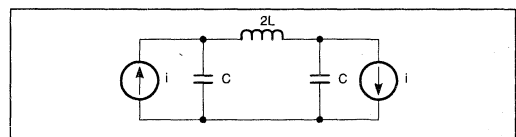
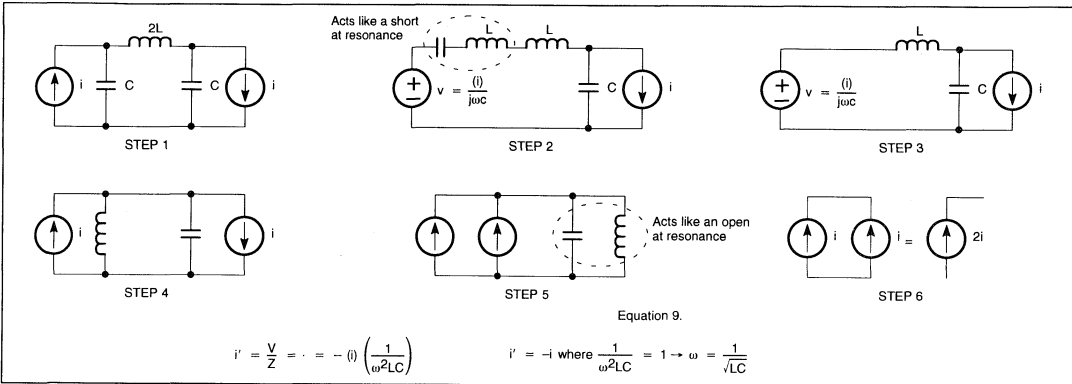

Figure 21. Ideal AC Equivalent Circuit
Figure 22. Equivalent Circuit Transformations at Resonance
Figure 21 shows the ideal AC equivalent model. In the ideal case, it is assumed that all component Q's are high enough to be neglected and the output impedances of the current sources are also high enough to be neglected. By source transformation, the parallel capacitor and current source can be converted to a voltage source and a source capacitor. The inductor,  $2L$ , can be split into two inductors where  $L$  becomes the new value (See Step 2 in Figure 22). Since two inductors of equal value in series will be twice that
The series capacitor and inductor (L) at resonance will act like a short circuit. Therefore, for this analysis we can redraw the circuit, as seen in Figure 22, step 3.
specified in Equation 9 of Figure 22. Therefore, by switching the current's direction, the negative sign disappears and the current source is aligned in the same direction as the other one.